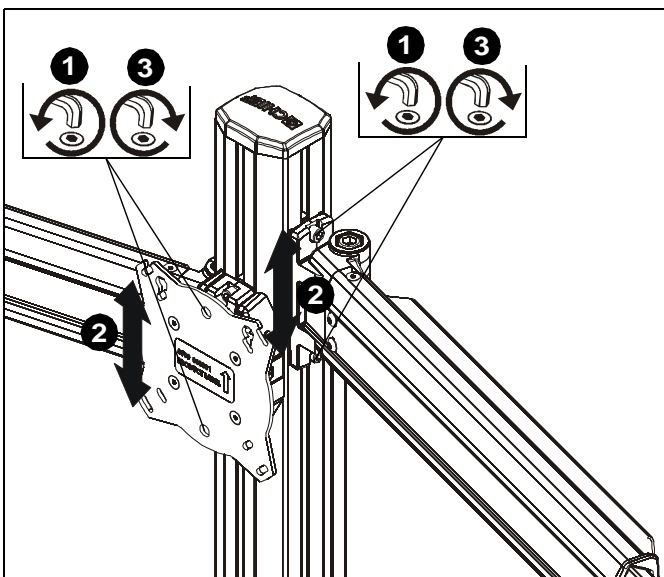

Figure 11
NOTE: Height adjustment for center display should be set prior to installing display. Due to the location of the height adjustment screws for the center display, the center display will need to be removed in order to adjust the height. (See Figure 11)
- Loosen height adjustment screws for specific display that will be adjusted. (See Figure 11)
- Adjust arm or display to desired height. (See Figure 11)
- Tighten height adjustment screws to lock display's position. (See Figure 11)